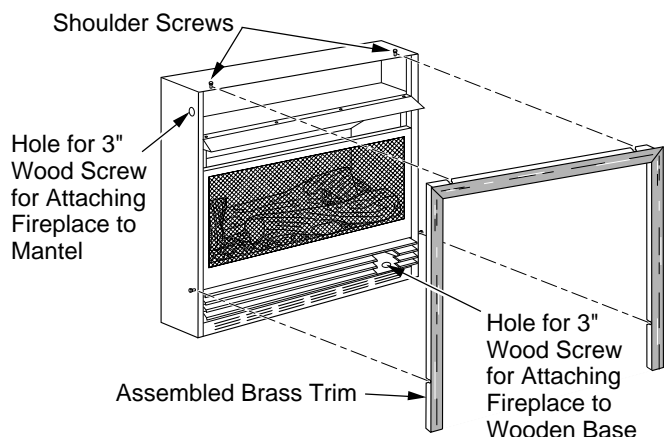

Figure 13 - Attaching Brass Trim to Fireplace
5. Firmly snap brass trim kit on shoulder screws. Shoulder screws are located on fireplace cabinet (see Figure 13).
- Use two 3" wood screws provided and attach fireplace base to wooden base (see Figure 13, page 10).
- Place brass trim kit on the shoulder screws located on the side and top of the fireplace. Firmly snap the brass trim over the shoulder screws on fireplace (see Figure 13).
- Adjust assembly to remove any gaps. Attach remaining two 3" wood screws from hardware pack through openings inside of fireplace sides into the mantel. The openings are located at top behind the area for the louvers (see Figure 13, page 10).